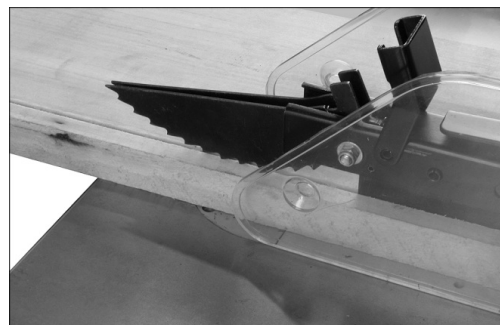

Figure 30
- ❑ As the machine receives use, the operation of the anti-kickback pawls should be checked periodically (Figure 30). If the pawls do not stop the reverse motion of a workpiece, sharpen all the points.